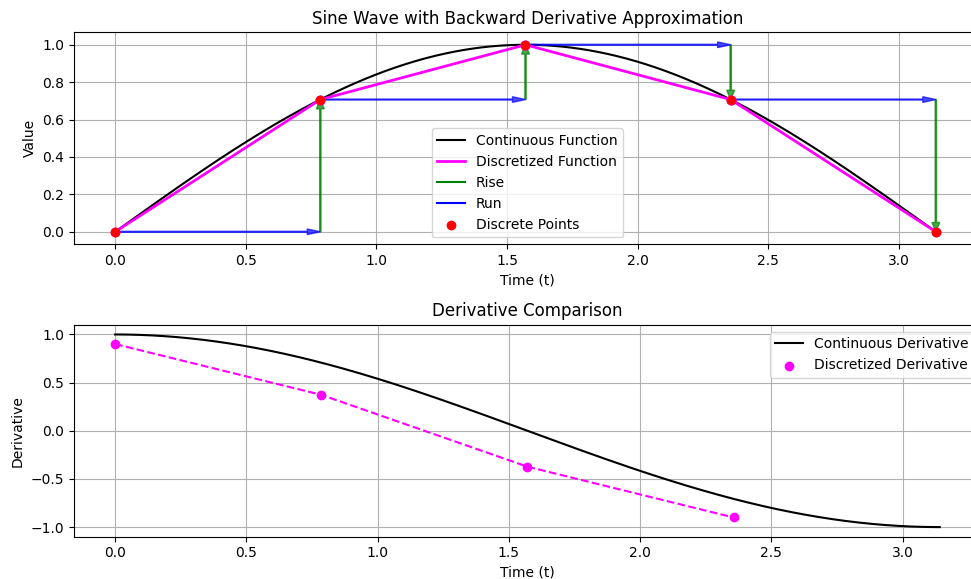

Figure 6: Backward Euler Discretization of the Derivative Term
- The derivative term is the rate of change of the error, and can help reduce overshoot. To approximate this derivative, we use the Backward Euler method, which calculates the derivative (slope) as the difference between the current error and the previous error, divided by the timestep ($slope = \frac{rise}{run}$). See Figure 6 for a visual representation of the Backward Euler method.